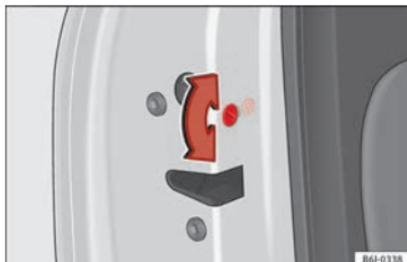

Fig. 120 Childproof lock on the left hand side door.
- With the door open, rotate the groove in the door using the ignition key, anti-clockwise for the right-hand side doors and clockwise for the left-hand side doors »» **Fig. 120**
- With the door open, rotate the groove in the door using the ignition key, anti-clockwise for the right-hand side doors, and clockwise for the left-hand side doors »» **Fig. 120**.